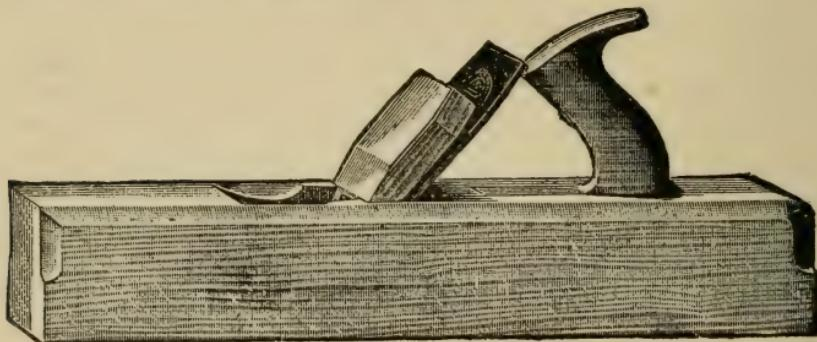

FIG. 88
**Jack and Trying Planes.**—The jack plane, Fig. 88, is the first applied to the wood after it has been sawed. This plane is always employed to remove the roughness of the work before finishing up with trying and smoothing planes. It is made up of five parts—namely, the stock (which should be 17 in. in length), the toat or handle, the wedge, the cutting iron or cutter ( $2\frac{1}{8}$  in. broad), and back iron. Immediately behind the iron is a handle, which, in use, is grasped only by the right hand in planing fir; but in heavy